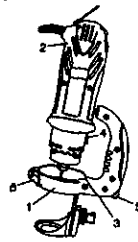

Fig. 10
1. Slide precision handle mounting bracket (1) onto the bottom of motor housing (2) until the slot under the handle (3) lines up with the shaft locking button (4) in the motor housing (see Fig. 10).